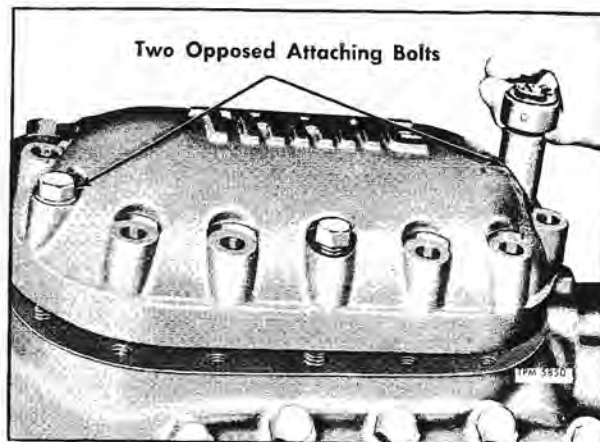

Figure 66—Method of Removing Cylinder Head Cover
1. Remove all but two opposed cylinder head attaching bolts. Back off remaining bolts two or three full turns (fig. 66).
2. Examine cylinder head (2) to see if head is following heads of attaching bolts as shown. If not, tap the head with a plastic hammer until head gasket (1) breaks loose.